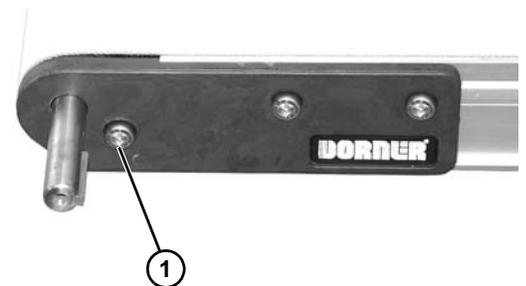

Figure 17
- Install M6x8 socket head screw (Figure 17, item 1) and washer.